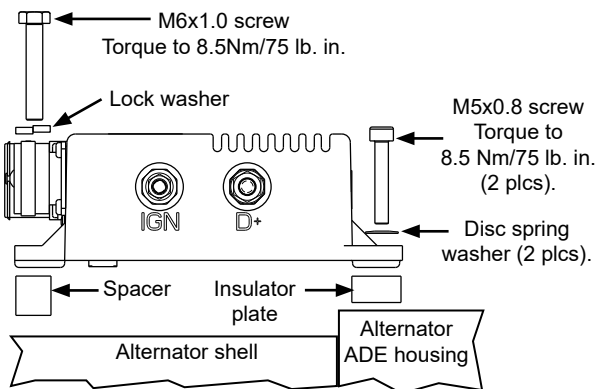

Figure 9: Mounting Regulator
2. Mount regulator on alternator with included hardware as shown in Figure 1 on page 1 and Figure 9 below or remotely with extension harness¹. Torque regulator mounting screws to 8.5 Nm/75 lb. in.